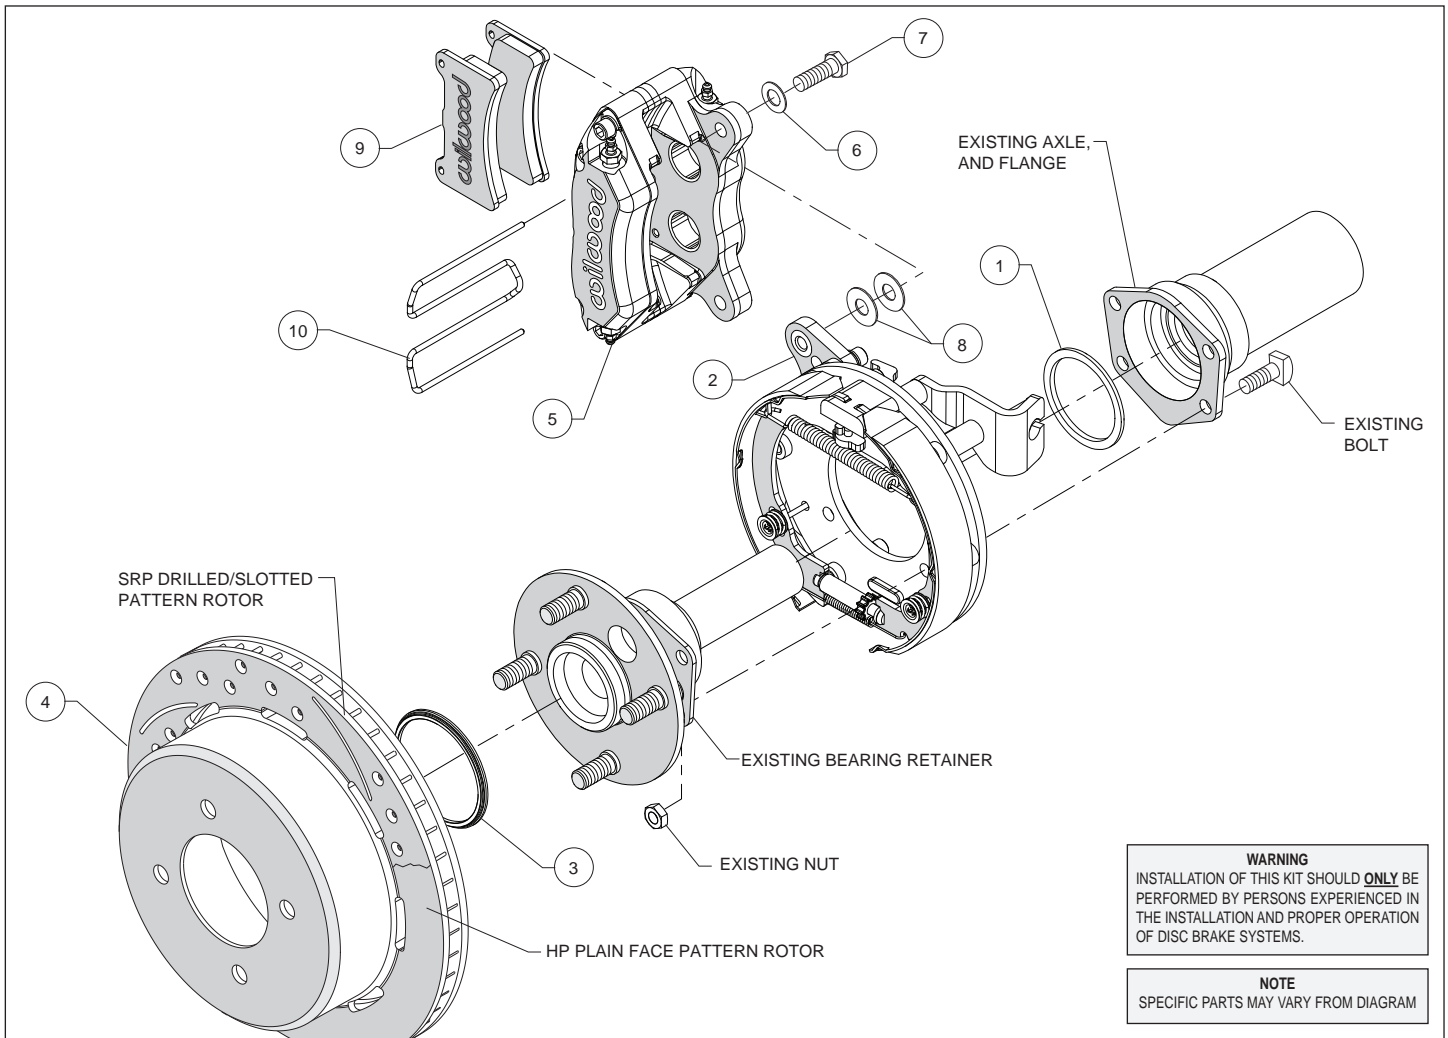
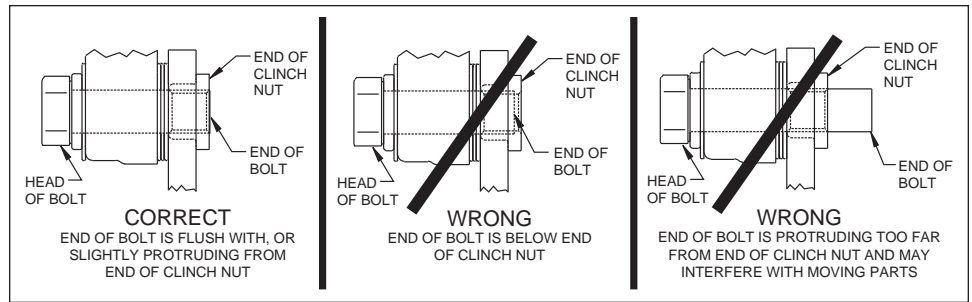

Figure 1. Typical Installation Configuration
Figure 4. Clinch Nut Engagement Diagram
**Assembly Instructions** (numbers in parenthesis refer to the parts list, and Figure 1 on the preceding pages): **CAUTION:** All mounting bolts must fully engage clinch nuts. Be sure to check that all bolts are either flush or protruding through flanged side of clinch nut after shimming, Figure 4.
- With the bearing retainer in place, slide the caliper mounting bracket assembly (2) onto the axle as shown in Figure 1 and Photo 1. Install axle shim (1) over axle shaft with bearing chamfer facing toward the axle housing, as shown in Photo 2.
- Slide the axle and parking brake assembly into the axle housing ensuring that the backing plate is flush with the axle housing flange and the bearing retainer is flush with the backing plate. Secure retainer and bracket assembly to the axle housing flange using the Original Equipment Manufacturer (OEM) bolts and nuts, Figure 1. Apply red *Loctite*® 271 to the OEM bolt threads and torque to OEM specifications.
- Slide the rotor registration adapter (3) onto the axle register on the axle flange with the smaller O.D. facing toward the rotor/hat (4), Photo 3. Align the hole pattern in the rotor/hat with the stud pattern on the axle flange and slide into place, Figure 1 and Photo 4. **NOTE:** The rotor/hat must fit flush against the axle flange or excessive rotor run out may result. Install three lug nuts (finger tight) to keep the rotor/hat assembly in place while continuing with the installation. **NOTE:** Some OEM and after market axles come with stud sizes larger than 0.50" diameter. Verify stud size and have a qualified machine shop drill the bolt circle of the hat/rotor to the correct stud size, if necessary.
•**NOTE:** Please reference the caution statement at the beginning of the assembly instructions. Mount the caliper (5) onto the caliper mounting bracket (2) using bolts (7) and washers (6), as shown in Figure 1. Initially place two .035" thick shims (8) on each bolt between the caliper and the bracket, Photo 5. Temporarily tighten the mounting bolts and view the rotor (4) through the top opening of the caliper. The rotor should be centered in the caliper, Photo 6. If not, adjust by adding or subtracting shims between the bracket and the caliper. Always use the same amount of shims on each of the two mounting bolts. **NOTE:** The end of each bolt must be flush with or slightly protruding from the head of the clinch nut, as shown in Figure 4. If necessary place spare shims between washer (6) and caliper mounting ear to achieve the proper clinch nut engagement. Once the caliper alignment and clinch nut engagement are correct, remove the bolts one at a time, apply red *Loctite*® 271 to bolt threads, and torque to 40 ft-lb.
•Install the disc brake pads (9) into the caliper, with the friction material facing the rotor (4), and secure in place using pad clip retainer (10), Photo 7.
•Before final installation of the wheel, install three lug nuts, remove the rubber grommet in the bracket kit assembly (2) and adjust the parking brake shoes outward (using a drum shoe adjustment tool available at your local auto parts store) while spinning the rotor/hat (4) until a slight drag is felt against the hat/drum. Replace the rubber grommet when finished.